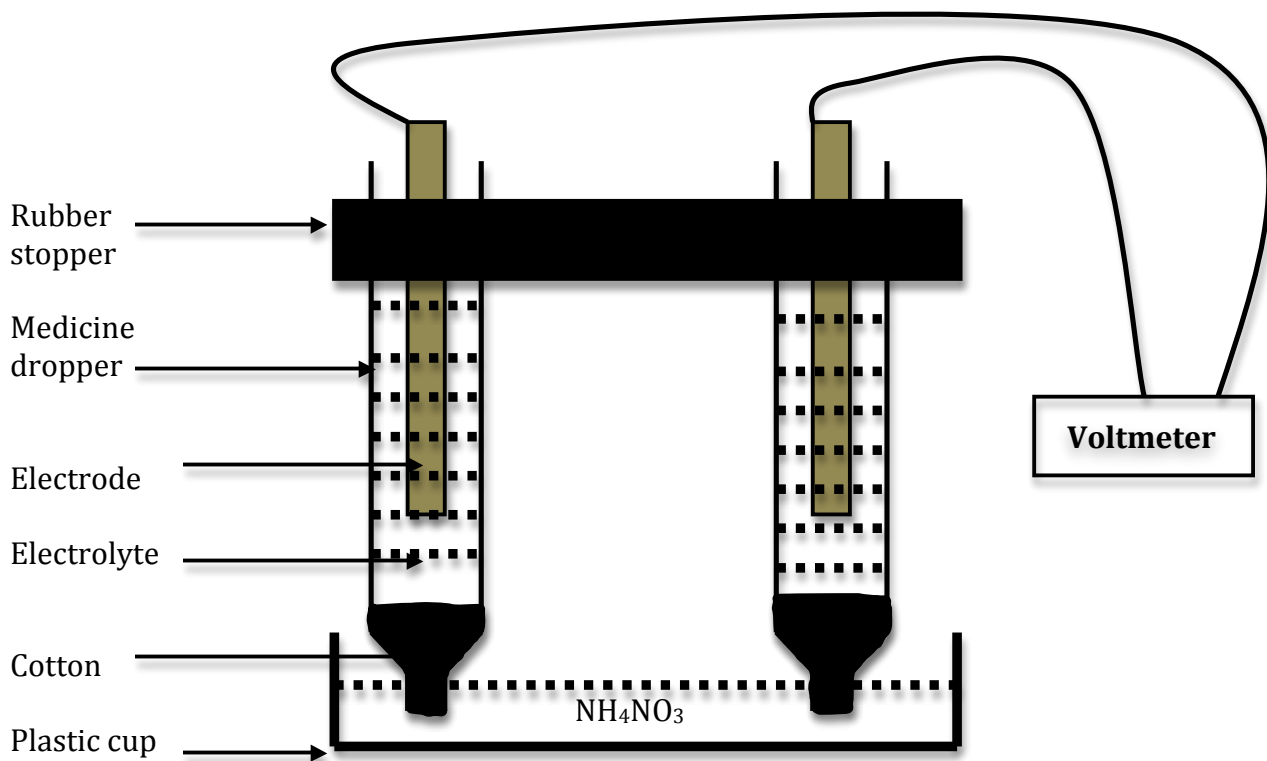

FIGURE 2: ELECTROCHEMICAL CELL, LABORATORY SETUP
- e. The entire set up should look similar to that shown in Figure 2 below.